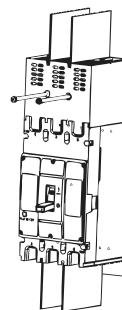

Figure 4
4. Finally, use screws to fix the arc baffle on the arc hood, as shown in Figure 4